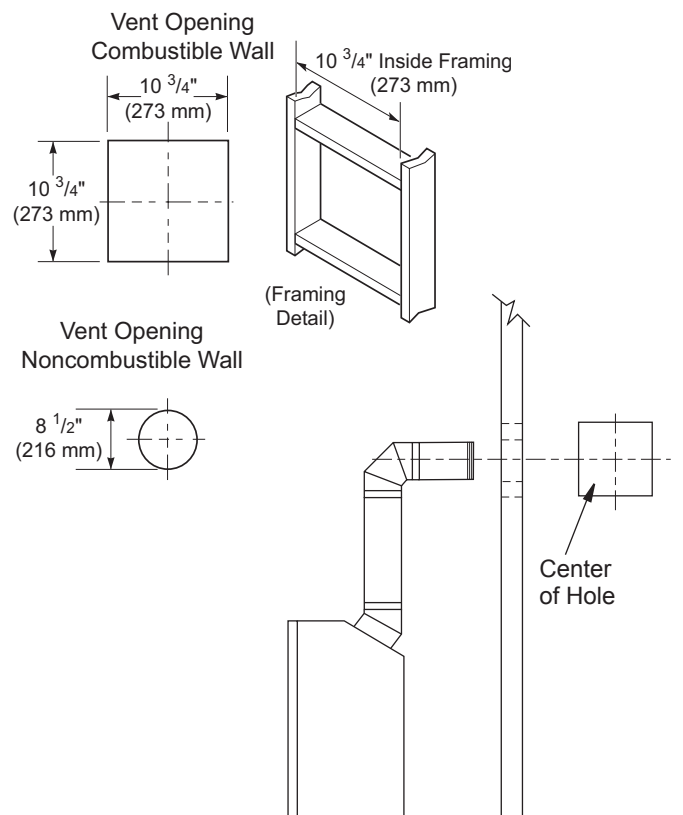
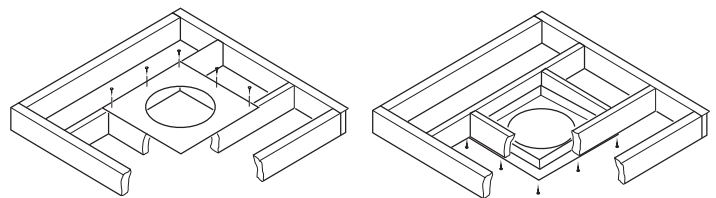

Figure 9 - Vent Opening Requirements
Figure 20 - Installing Firestop
5. Carefully determine the location where the vent pipe assembly will penetrate the outside wall. The center of the hole should line up with the center-line of the horizontal vent pipe. Mark the wall for a 10 3/4" x 10 3/4" square hole. Cut and frame the square hole in the exterior wall where the vent will be terminated. If the wall being penetrated is constructed of noncombustible material, such as masonry block or concrete, a 8 1/2" hole with zero clearance is acceptable (see Figure 9).
1. Cut a 10 3/4" square hole in the ceiling using the locating hole as a center point. The opening should be framed to 10 3/4" x 10 3/4" (273mm x 273mm) inside dimensions, as shown in Figure 9 on page 8 using framing lumber the same size as the ceiling joists. If the area above the ceiling is an insulated ceiling or a room, nail firestop from the top side. This prevents loose insulation from falling into the required clearance space. Otherwise, install firestop below the framed hole. The firestop should be installed with no less than three nails per side (see Figure 20).
3. Cut a hole in the roof using the locating hole as a center point. (Cover any exposed open vent pipes before cutting hole in roof.) The 10 3/4" x 10 3/4" hole must be measured on the horizontal; actual length may be larger depending on the pitch of the roof. There must be a 1" clearance from the vent pipe to combustible materials. Frame the opening as shown in Figure 9, page 8.